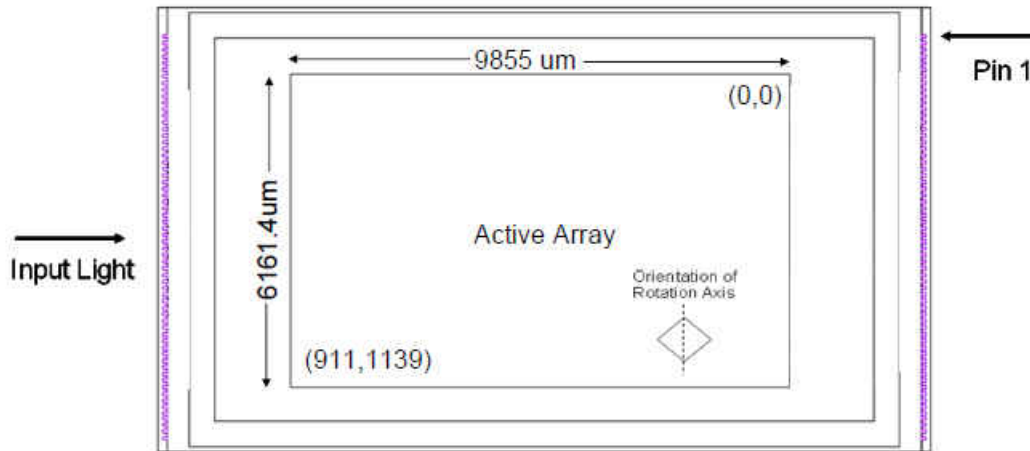

图 7-5. DLP4500 Micromirror Active Area
- (3) See Micromirror Active Area in Fig 7-5.